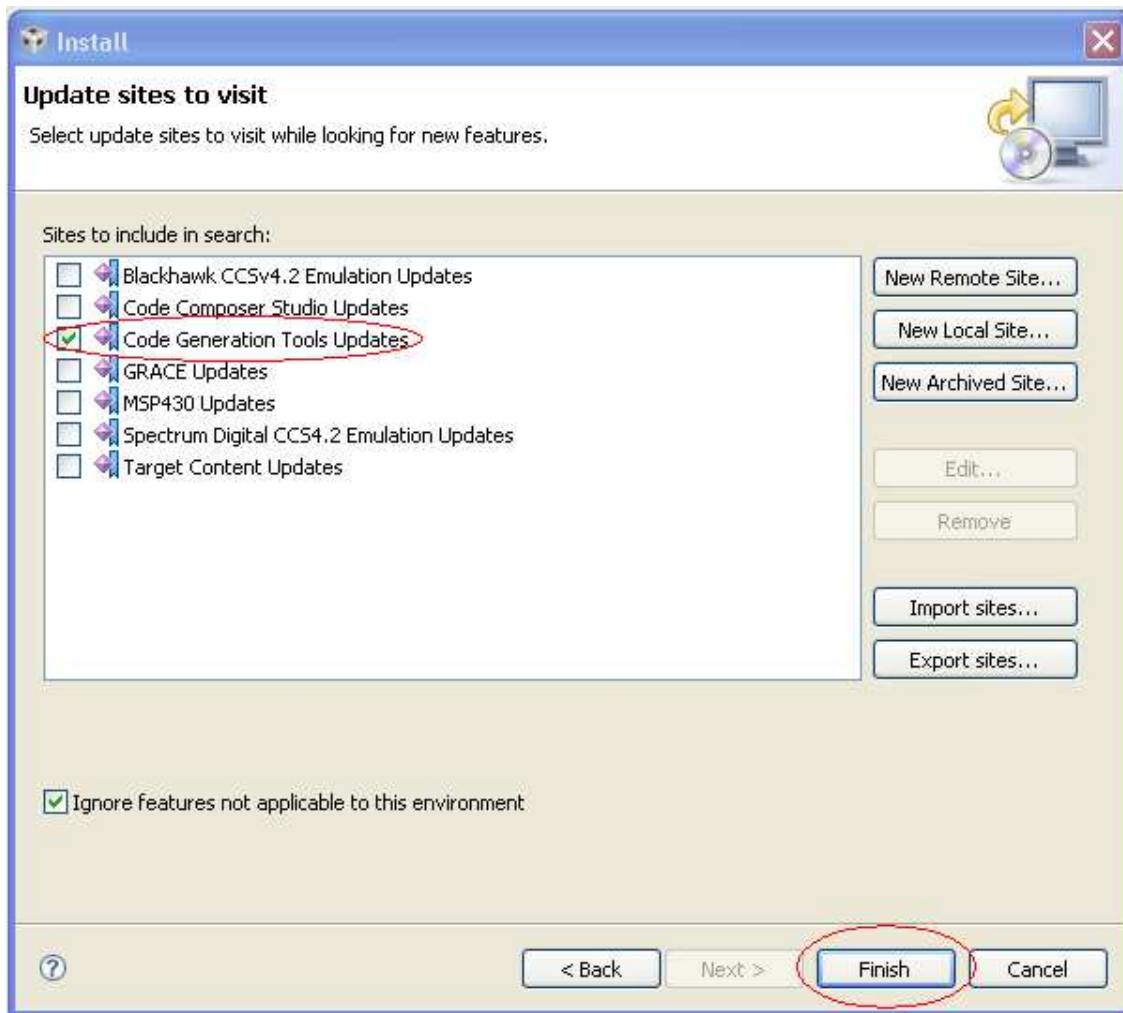

Figure 3. Selecting Update Options
6. Select Code Generation Tools Updates on the screen that appears next (as shown in Figure 3).